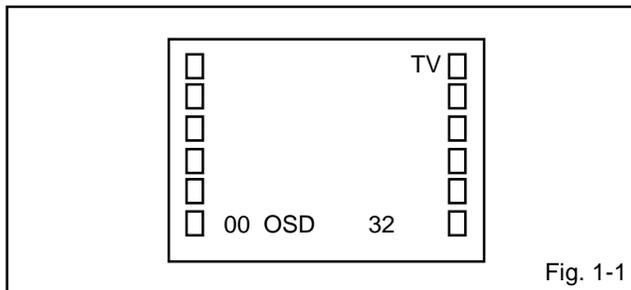

Fig. 1-1
1. In the condition of NO indication on the screen. Press the VOL. DOWN button on the set and the Channel button (9) on the remote control for more than 1 second to appear the adjustment mode on the screen as shown in Fig. 1-1.
4. Activate the adjustment mode display of Fig. 1-1 and press the channel button (01) on the remote control to select "CUT OFF".
4. Activate the adjustment mode display of Fig. 1-1 and press the channel button (12) on the remote control to select "R. BIAS".
10. If the picture is too much green. Activate the adjustment mode display of Fig. 1-1 and press the channel button (28) on the remote control to select "CB PED".
12. If the picture is too much red. Activate the adjustment mode display of Fig. 1-1 and press the channel button (29) on the remote control to select "CR PED".
4. Activate the adjustment mode display of **Fig. 1-1** and press the channel button **(22)** on the remote control to select "COLOR CENT".
4. Activate the adjustment mode display of **Fig. 1-1** and press the channel button **(24)** on the remote control to select "TINT".
3. Activate the adjustment mode display of **Fig. 1-1** and press the channel button **(07)** on the remote control to select "V. SIZE".
3. Activate the adjustment mode display of **Fig. 1-1** and press the channel button **(08)** on the remote control to select "V. LINEARITY".